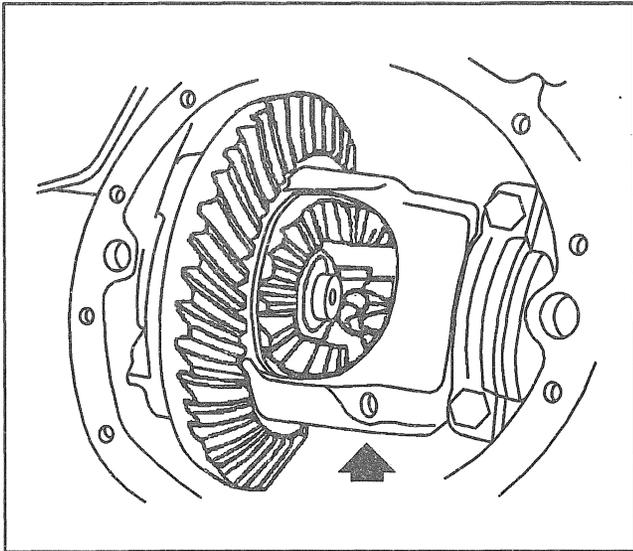

Figure 2—Pinion Shaft Lock Bolt
1. The cover bolts (24) and cover (25).
2. Pinion shaft lock bolt (29) (Figure 2).
3. Pinion shaft (28).
4. "C" clip (37) from the end of the axle shaft (3).
- Push the axle shaft (3) in towards the center of the differential case (27).
5. Axle shaft (3) from the axle housing (12).
6. Oil seal (4) using a seal removal tool behind the seal lip.
7. Bearing (5) using J 2619-01 and J 22813-01.
8. Pinion (31) and side gears (33).